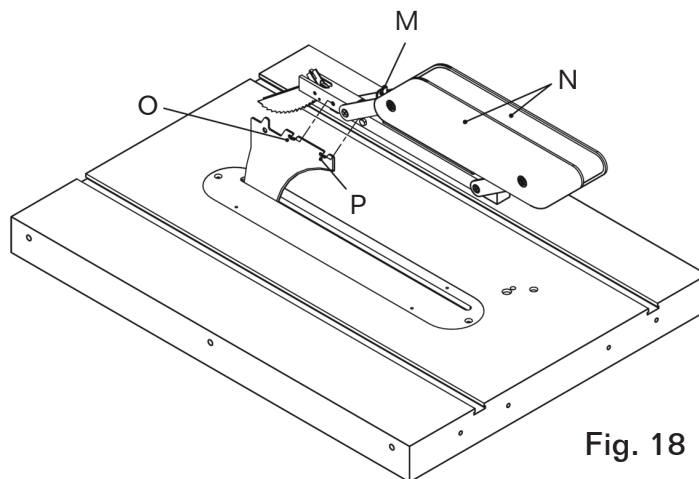
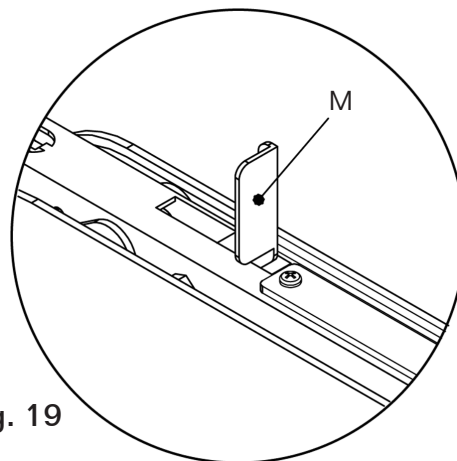

Fig. 18
Fig. 19
1. Before installation the blade guard (N), please confirmed Fig.18 the handle (M) keep on open as Fig.19.
2. Pull up the guards as Fig.18.
3. Insert the guards on the position O & P of spreader as Fig.18.